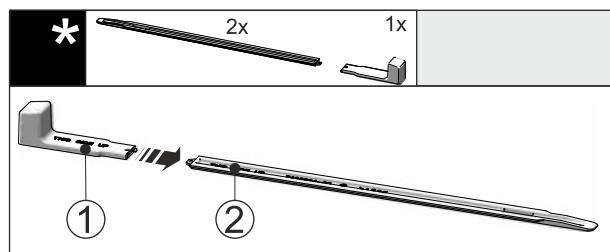

Fig. 46
- Attach the installation handle Fig. 46 (1) to the levelling rail Fig. 46 (2).